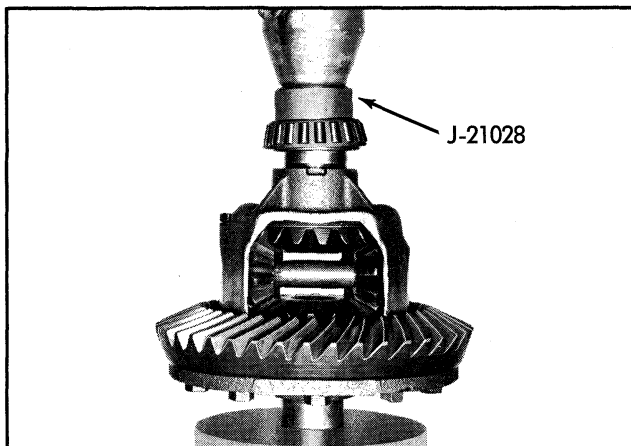

Fig. 4-28 Installing Right Differential Side Bearing
9. Using J-21028 press on bearing with arbor press (Fig. 4-28).